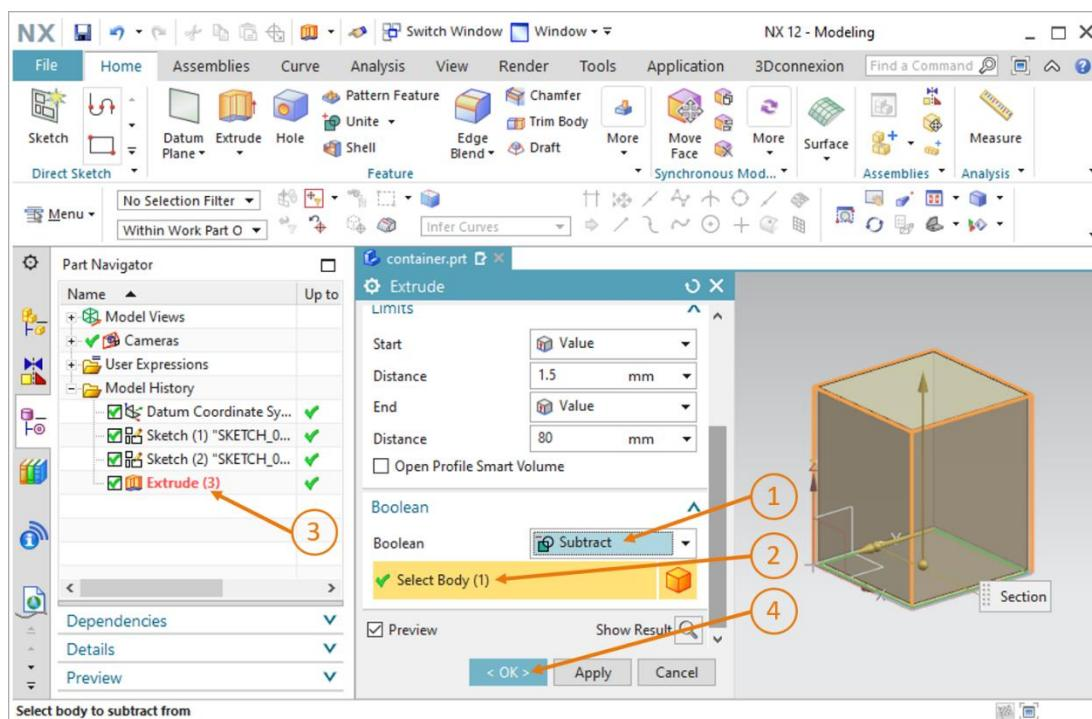

Figure 29: Subtracting the interior from the outer form of the container
- To subtract one body from another, navigate down to the "Boolean" section of the "Extrude" window. First, select the "Subtract" option for the Boolean operation (see Figure 29, step 1). Then click on "Select Body" (see Figure 29, step 2) and select the extruded outer form of the container from the Part Navigator. In this model, you will find this under the name "**Extrude (3)**", as shown in Figure 29, step 3. You can now see from the graphics window how the subtraction acts on the overall body. Confirm your entries by clicking "**OK**" (see Figure 29, step 4).